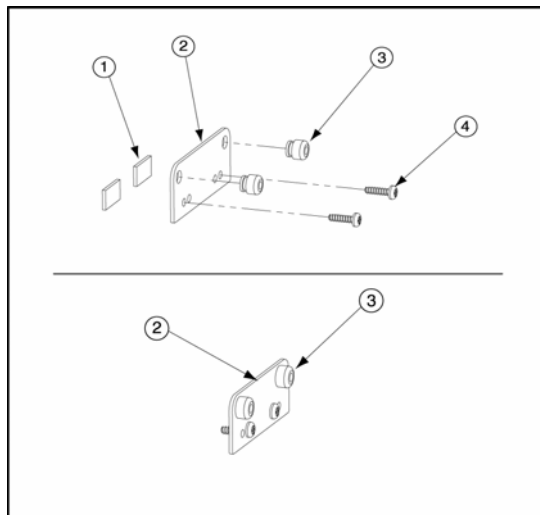
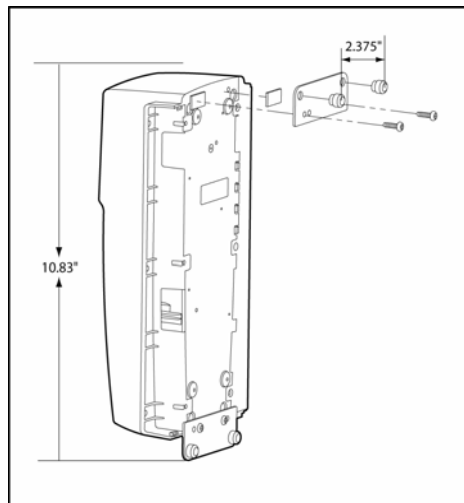

Figure 4. Parts of the Wall Mounting Plate
Figure 5. Attaching the Wall Mounting Plate
The charger can be easily mounted onto a secure surface. To mount the charger, refer to Table 4, Figures 4 and 5, and complete the following procedures:
2. Using the screws provided, attach the wall mounting plates to the charger. Refer to Figure 4 and Figure 5.